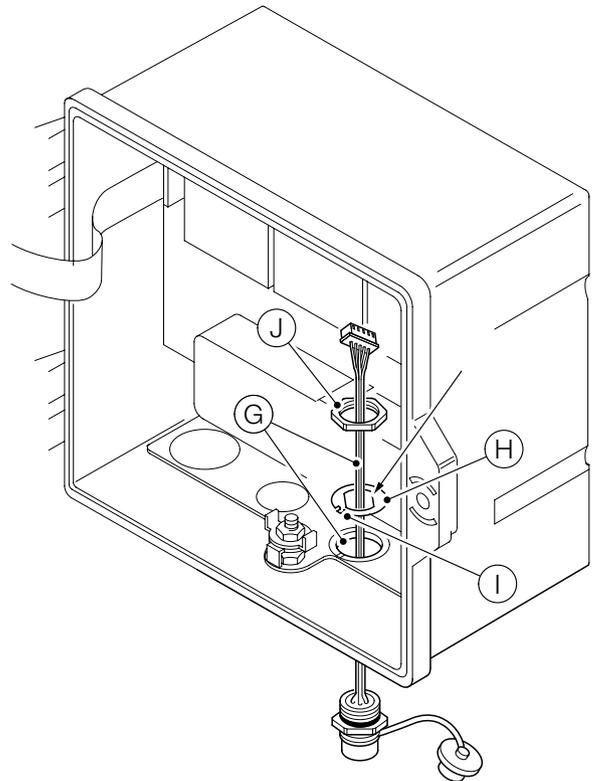

Figure 12 Preparing EZLink connector cable fixings
Referring to Figure 12:
- 7 Fit alignment tab (I) into gland plate slot (K) (on plastic case variant) or in the casting slot (on metal case variant).
- 8 Insert EZLink connector body (L) fully into cable entry and align the connector body using the flats on the alignment washer (see Figure 12).
- 9 Screw back nut (J) onto connector body and tighten using a spanner.